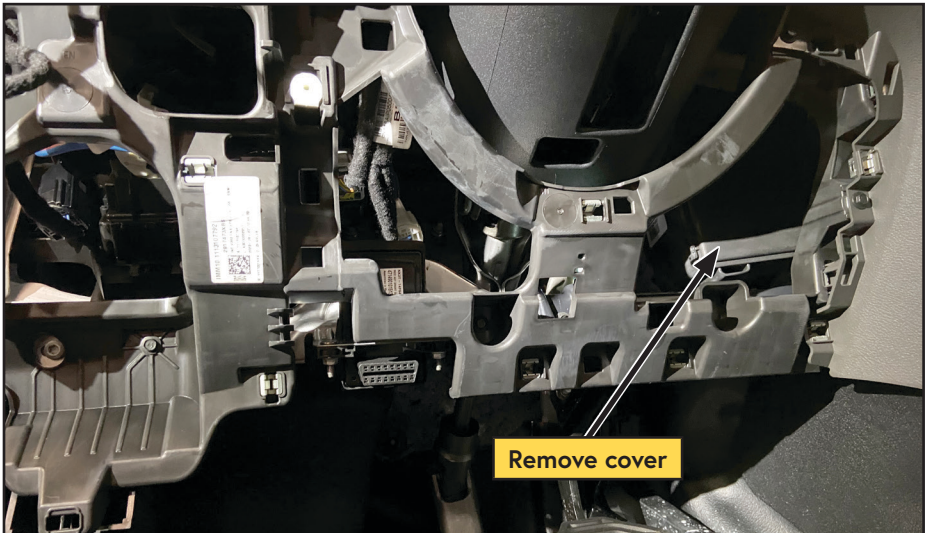

Figure 50 — Mount DTC
- Remove the cover from the fuse box (Figure 50).